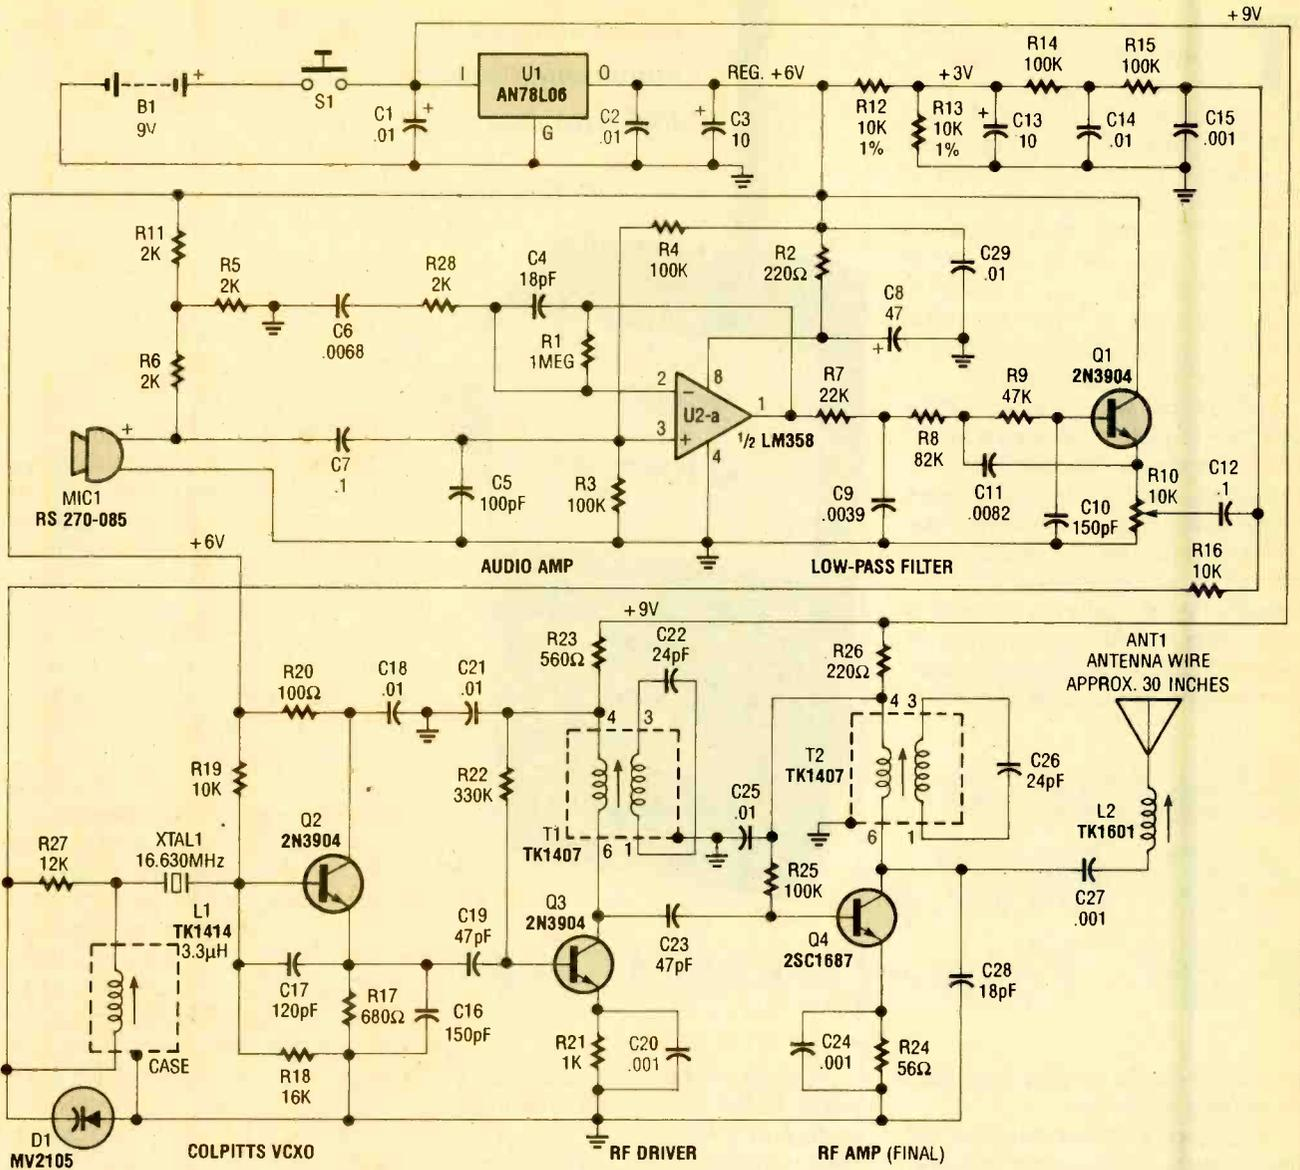

Fig. 1. The 49-MHz FM Transmitter consists of an audio amplifier, a low-pass filter, three RF stages, and a regulated-DC power supply.
Refer back to Fig. 1. In order to generate an FM signal, it is necessary to modulate the oscillator's frequency. The audio signal from the microphone is used as the modulating source. Diode D1, with a junction capacitance that's inversely proportional to the voltage between its anode and cathode, provides a convenient mechanism for varying the
**Circuit Description.** Figure 1 is a schematic diagram of the 49-MHz FM Transmitter. The circuit consists of an audio amplifier, a low-pass filter, three RF stages, and a regulated-DC power supply.